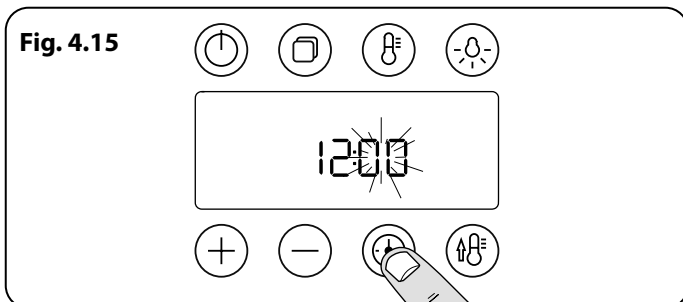

Fig. 4.15
3. Tap the 'timer' button and the minutes will flash. Use the [+] or [-] buttons to set the minutes (**Fig. 4.15**).